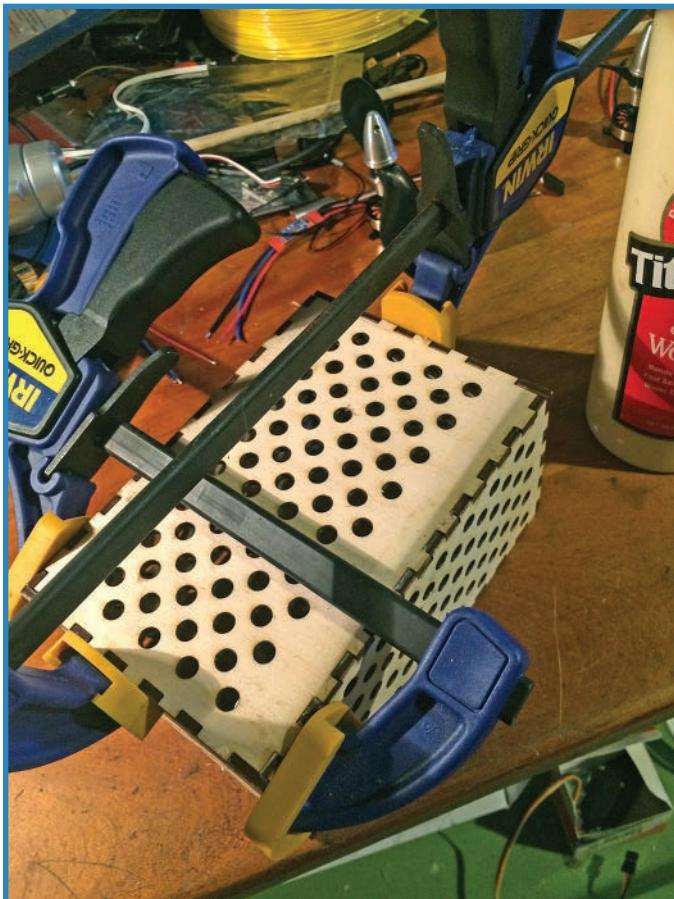

FIGURE 7.6 Assemble, glue, and clamp the chassis box.
1. Assemble the gondola box shown in Figure 7.6. I cut the parts out of 1/8" birch using a laser cutter and then glued and clamped the parts. However, you don’t need to get that fancy. Any lightweight box will do.